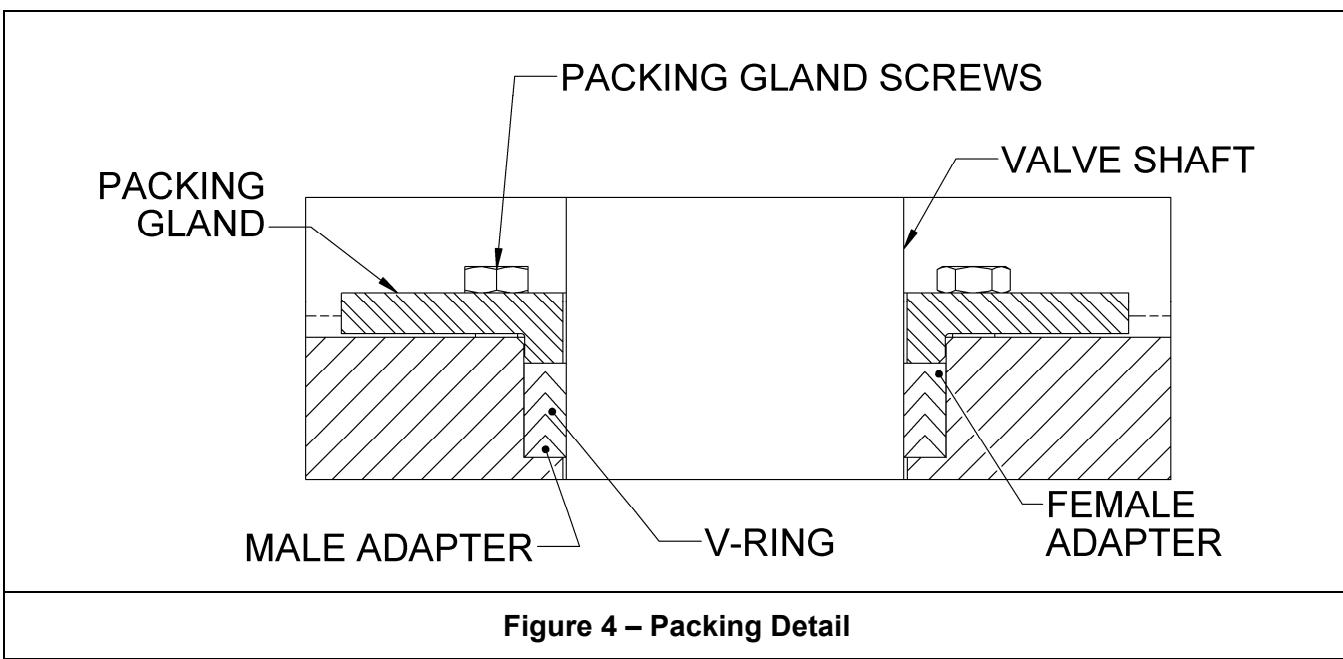

Figure 4 – Packing Detail
2. Tighten packing gland screws evenly only until leaking stops, see Figure 4.
4. Obtain the new packing. The type of packing used in the Willamette VMC-2200 cone valve is v-packing. V-packing consists of a male and female adapter ring and several v-rings, see Figure 4. Make sure it is clean, and has not picked up any dirt in handling before installing it. Lubricate I.D. of each packing ring.